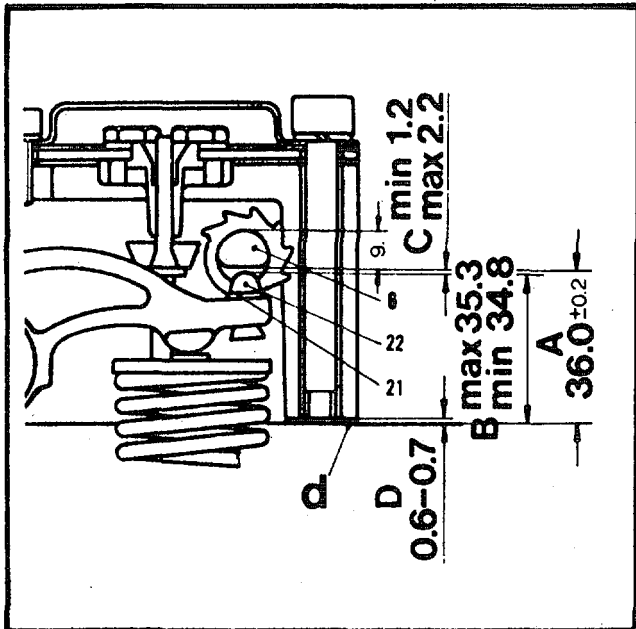

Figure 6-11. Compression Adjustment
(32) Install o-rings (8) on shaft (6), install shaft (6) into valve cover (4). Install one retainer clip (19) at base of shaft (6), and the other at the end of the shaft. Place ball (10) and spring in cover.(4) and install threaded plug (12).
(33) Rotate flywheel until compression resistance is noted. Using tool No. 38, adjusting gauge, (Figure 2-1), determine if the top of pin "a" on rocker arm (23) falls between the minimum of maximum allowable values. (See Figure 6-11 and 6-12).
(34) If a new pressure pin (22) and spacer (21) are required, place new pressure pin in rocker arm, using spacers (21) to adjust for proper height requirements for distance "B" (min. 34.8 mm max. 35.3 mm). Using tool No. 39, riveting tool, attach new pressure pin (22) and spacer (21) to rocker arm (23). (See Figure 6-11.) Proper tool set up and adjustment will help make a tight pressure pin seal to the rocker arm.
(35) Place gaskets (29) over studs (30), install exhaust muffler (28) over studs (30) and secure with nuts (27). Install cover gaskets (13), valve covers (4) and secure covers to cylinder head using screws (3). Attach lifting straps (2) to cylinder heads using screws (1).